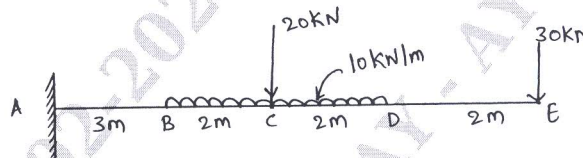

Fig.Q6(b)
- b. Draw shear force diagram and bending moment diagram for the following beam shown in Fig.Q6(b). (10 Marks)